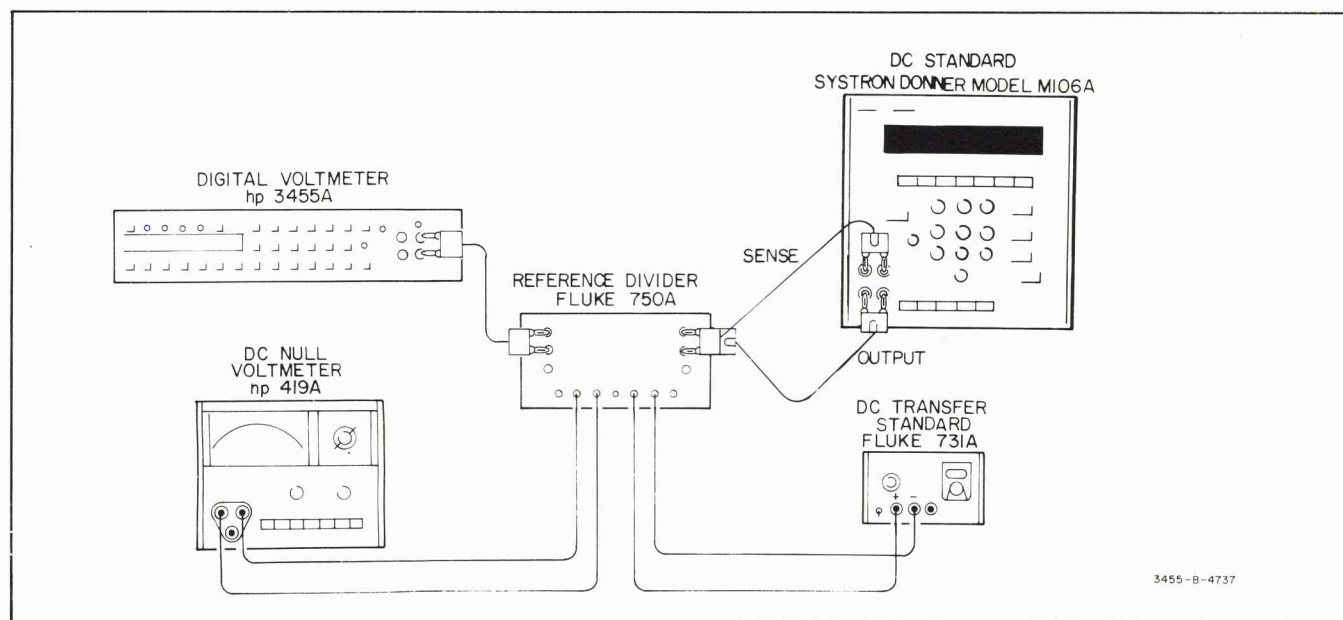

Figure 4-2. DC Accuracy Test.
k. Turn off the DC Standard's output. Using 24'' (or shorter) shielded cables equipped with banana-plug connectors, connect the DC Standard and the 3455A to the Reference Divider as shown in Figure 4-2.